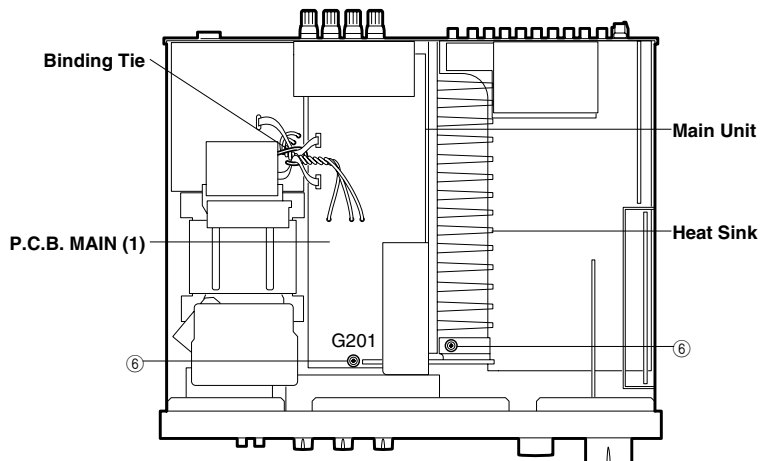

Fig.3
- Remove the Binding Tie fixing P.C.B. MAIN (1)'s wiring in Fig. 3.
**Note)** When the assembling, P.C.B. MAIN (1)'s wiring regardfully for ungenerated noise induction.
- Remove 2 screws (6) fixing the Main Unit in Fig. 3.